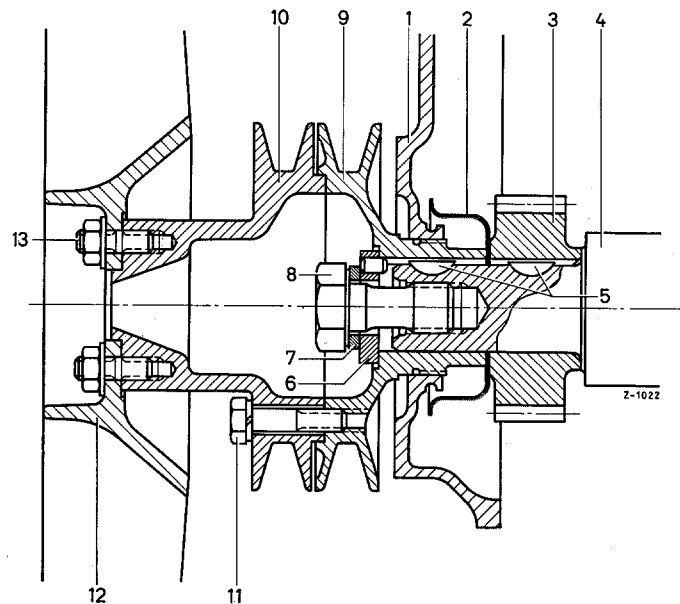

Figure 03-1/4
In the design according to Figure 03-1/4 the belt pulley (9) and the spacer consist of one single piece. The oil deflector (2) is a separate part and is pressed against the crankshaft timing gear (3) by the pulley. The timing housing cover is without collar (a), so that the pulley can be removed without removal of the timing housing cover (also see Figure 01-16/2).